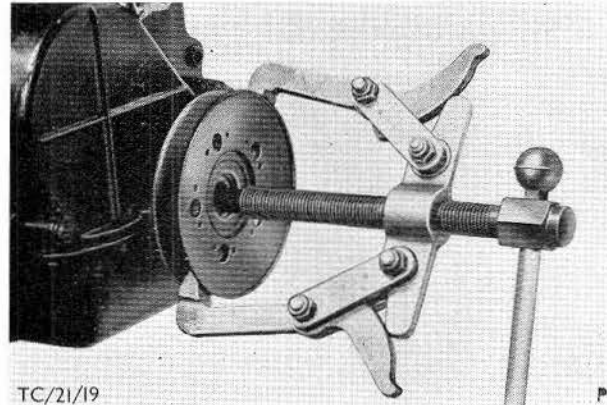

Fig. 21. Pull off crankshaft pulley using Special Tool 6132-A.
8. Remove crankshaft pulley (1 bolt), Fig. 21, and rocker cover (4 screws).